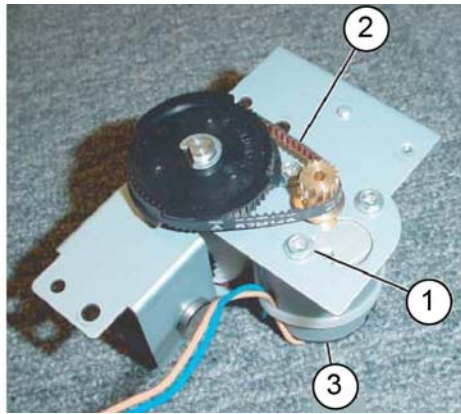

Figure 4 Stacker motor removal
8. Remove the stacker motor, Figure 4:
- a. Remove three screws (1).
- b. Remove the belt (2) from the pulley.
- c. Remove the stacker motor (3).